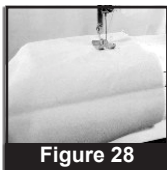

Figure 28
2. Position the narrow garment around the sewing arm. (Figure 28)